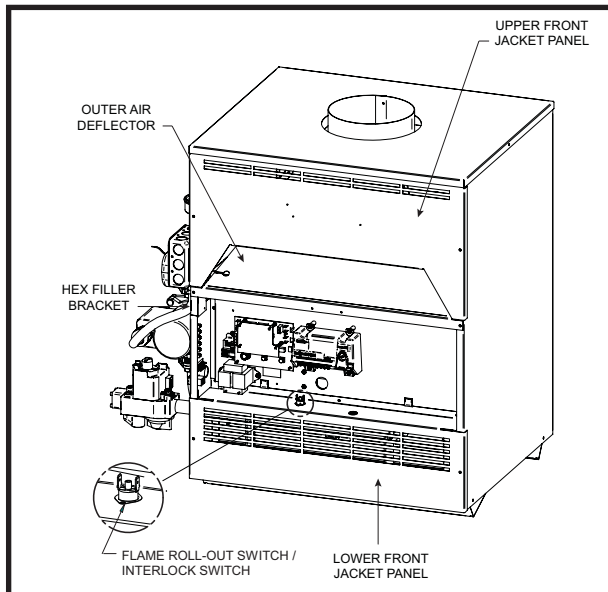

FIG. 38A Outer Air Deflector and HEX Filler Bracket
- d. Remove the outer air deflector (FIG.38A)
- q. Remove the heat exchanger (HEX) filler bracket (FIG. 38A).